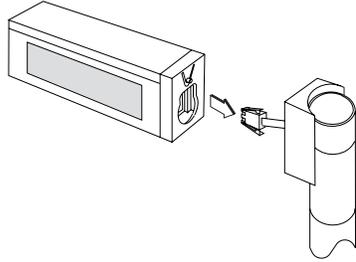

Figure 26. Disconnecting the display cable from the post
4. Disconnect the cable from the display (see Figure 26).